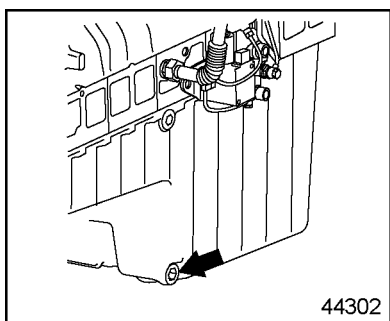

Figure 29 Engine Oil Drain Plug, Oil Pan
- [b] Carefully unscrew the oil drain plug on the oil pan and allow the oil to drain out (see Figure 29).